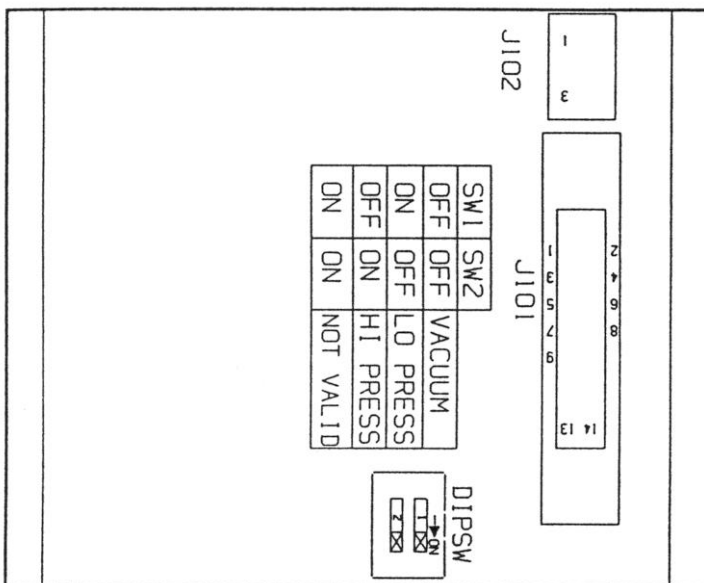

Figure 20 – Pressure/Vacuum Switch
5.2.1 On each Pressure/Vacuum Module there are two switches (see Figure 20) that tell the Control Module what pressure range to display on that particular module. These switches must be set before proceeding with the rest of the Set-up. After setting the switches on all Pressure/Vacuum Modules, press the Reset Button – S2 (see Figure 5) on the Control Module.